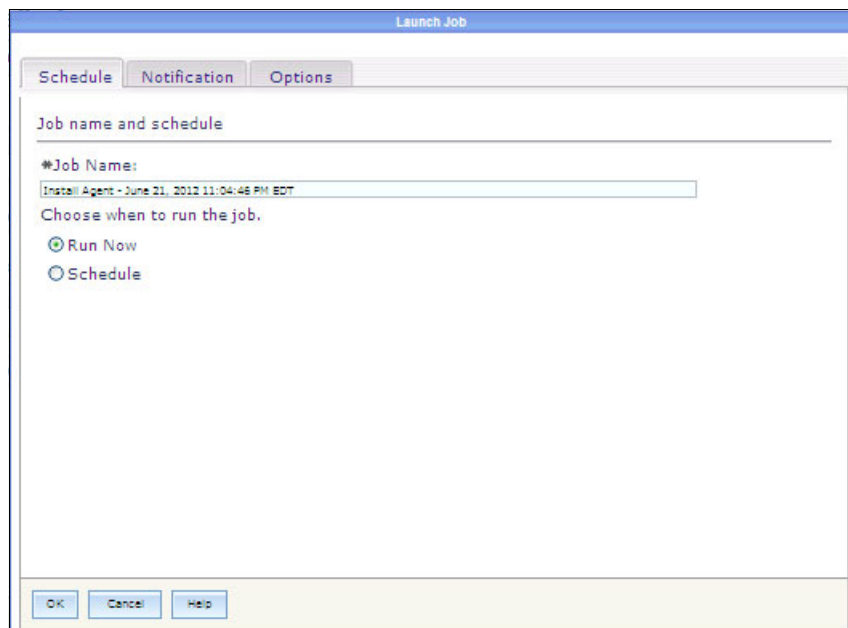

Figure 12-13 Agent Installation: Launch Job
5. In the Launch Job window, click **OK** to run the installation as shown in Figure 12-13.